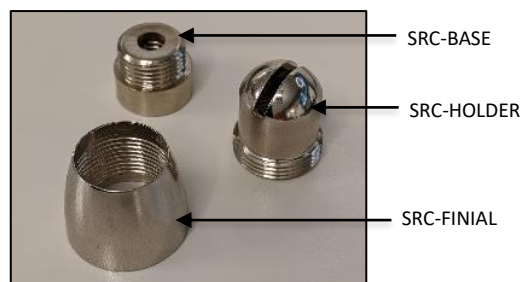

FIG. 11 - SLIP RING COUPLER (1)
- Remove STRAIN RELIEF placed around the CORD in the CANOPY. Dis-assemble the SLIP RING COUPLER (1) into three components SRC-BASE, SRC-HOLDER and SRC-FINIAL as shown below in FIG.11.